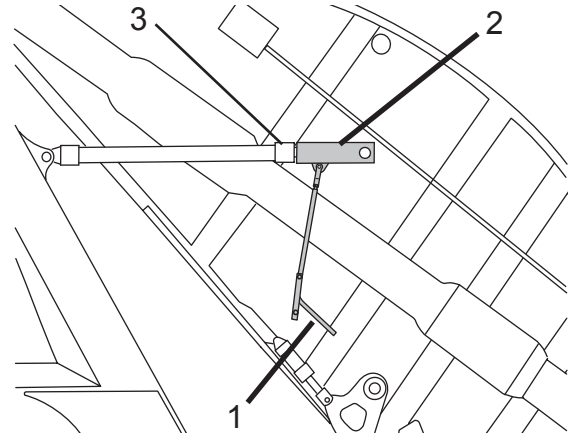

Figure 48
7. Push up on the prop lever (Figure 48, Item 1) to place prop (Figure 48, Item 2) around the cylinder rod. Repeat the procedure for the other side.
8. Turn ignition switch to the ON position. Do not start engine. Lower the tailgate until the props (Figure 48, Item 2) are seated against the cylinder barrel (Figure 48, Item 3).